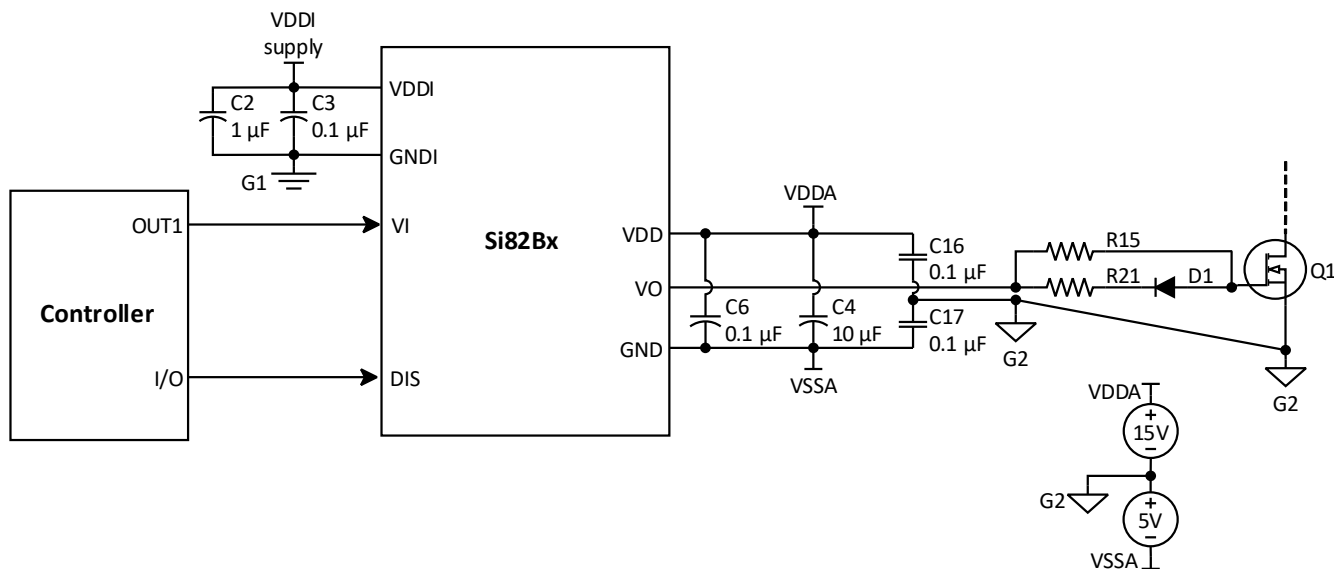

Figure 21. Si82Bx Bipolar Output Connection
The diagram shown in Figure 21, “Si82Bx Bipolar Output Connection,” on page 21 is similar to the above circuits except that the drivers produce the bipolar V_{GS} output voltage. The bipolar V_{GS} output requires the system to provide positive and negative voltage sources. Note that the bootstrap circuit cannot be used to share the low-side voltage sources with the high-side gate driver for a bipolar V_{GS} output application. In this example, +15 V and -5 V sources are used. The voltage sources' reference G2 is electrically connected to FET Q1's source.
- If the application requires extremely high common-mode transient immunity (CMTI) performance, it is recommended to add a 10 nF capacitor between each of the logic input pins and the logic input ground (GNDI), including the no connect (NC) pins. This helps to improve the CMTI performance.
- If the system is designed to provide a bipolar V_{GS} output, additional bypass capacitors (C16 and C17 in Figure 21, “Si82Bx Bipolar Output Connection,” on page 21) are required to minimize the return path length of the gate drive signals.